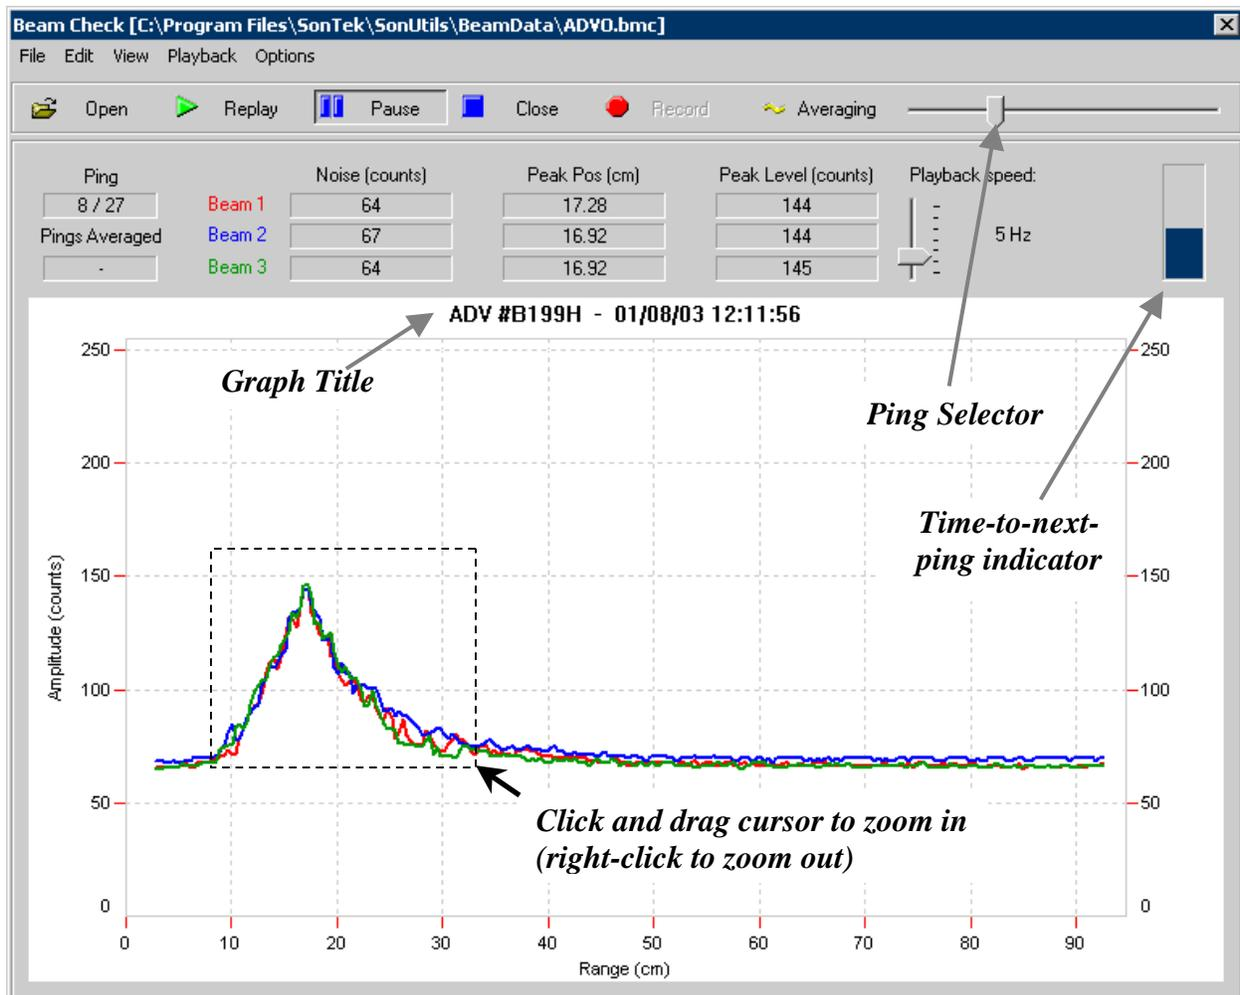

Figure 17 – BeamCheck Playback Example
- **Zoom In/Out** (mouse control) – To zoom-in on a particular area of the graphic display, use your mouse to click-and-drag a box around the desired area (see Figure 17). You can also zoom-in just by clicking on a particular feature within the graph. To zoom-out, right-click your mouse anywhere on the graph to step through the zoom-out levels. The click point will coincide with the center of the zoom.
This section describes *BeamCheck* display features (Figure 17).
- **Graph Title** – A title bar appears within the graph itself (Figure 17). This title bar shows the type of instrument (e.g., ADV, FlowTracker), its serial number, and the date/time that data collection began. Time is displayed in the format set within the Windows Control Panel (**Start|Settings|Control Panel|Regional Options|Time**).